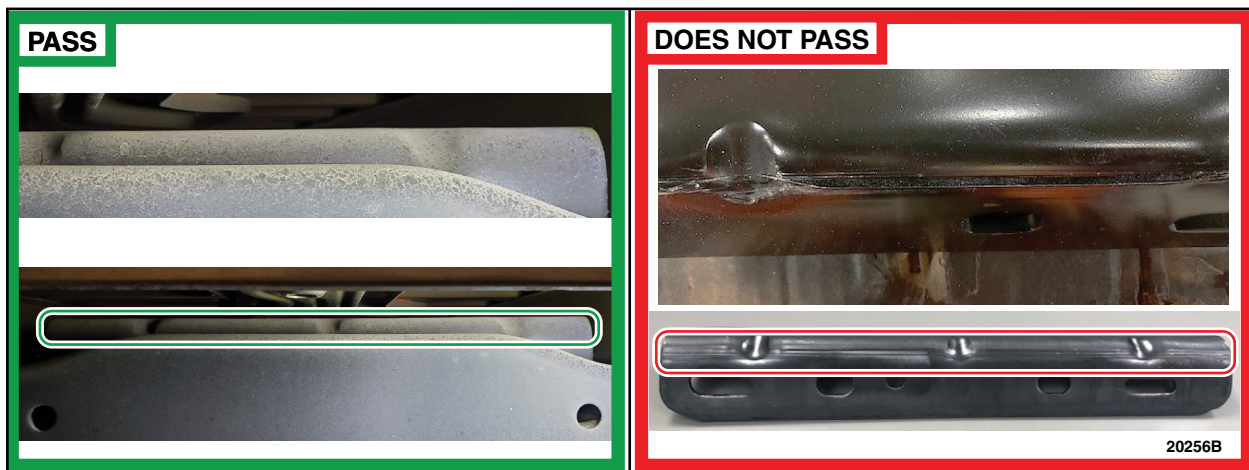

FIGURE 2
2. Inspect the LH 5th wheel inner bracket welded to the inside of the frame. Does the bracket appear to have a split in it? See Figure 2.